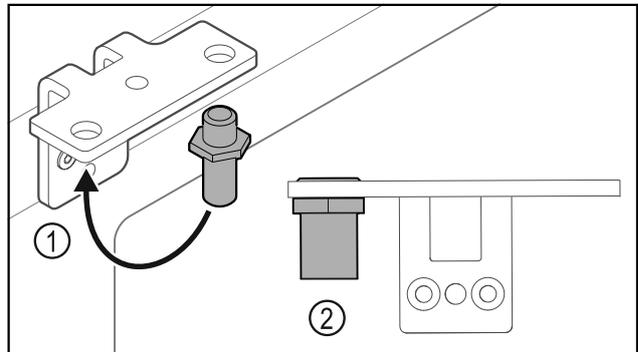

Fig. 23
- Put the pin back into the hinge Fig. 23 (1).
- Tighten the pin Fig. 23 (2) to a **torque of 12 Nm**.